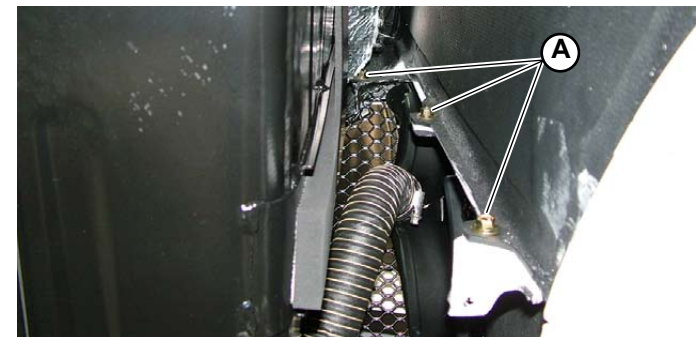

Fig.6
1. Unscrew the 3 screws (A-Fig.6) securing the rear part of the side member, using the free space created by the rear element of the wheel arch.